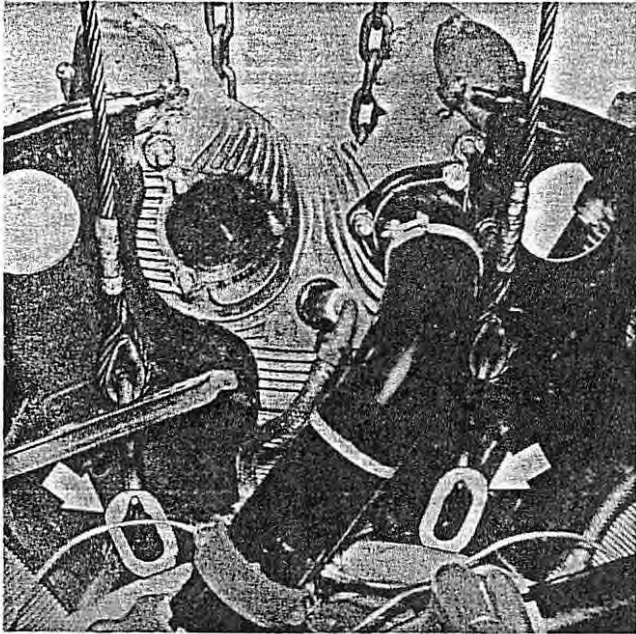

Figure 5-9. Engine Hoisting Lugs
a. Attach the hoist slings to lugs provided on the crankcase between cylinders 1 and 2 and cylinders 1 and 9 (figure 5-9).